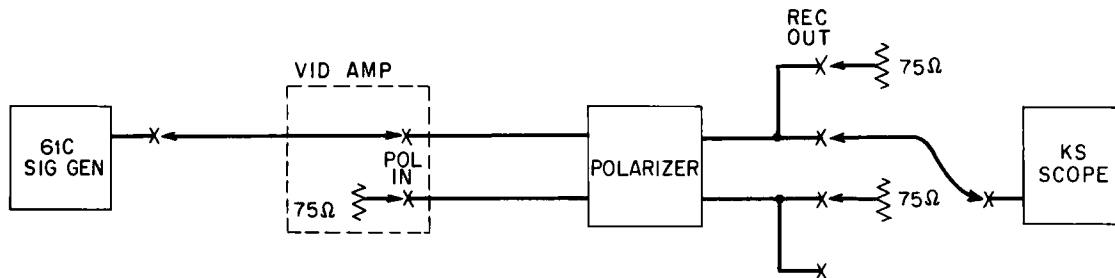

Fig. 27 - Arrangement for Testing Polarizer R3 Terminal
- (5) Set up the test arrangement of Fig. 27 with the POL DIS key set in NOR position.
- (6) Observe on the oscilloscope, that a sync negative video signal is received at the upper or tip jack.
- (7) Send a "sync positive" video signal into the polarizer by interchanging the 340C plug and the cords, at the POL IN jacks on the video amplifier panel.
- (6) Two values are given, one for a KS-14510 meter and one for a vacuum tube voltmeter which is the preferred instrument. The meter is set for dc and voltages are measured to ground from the two grids and the cathode of tube V2.